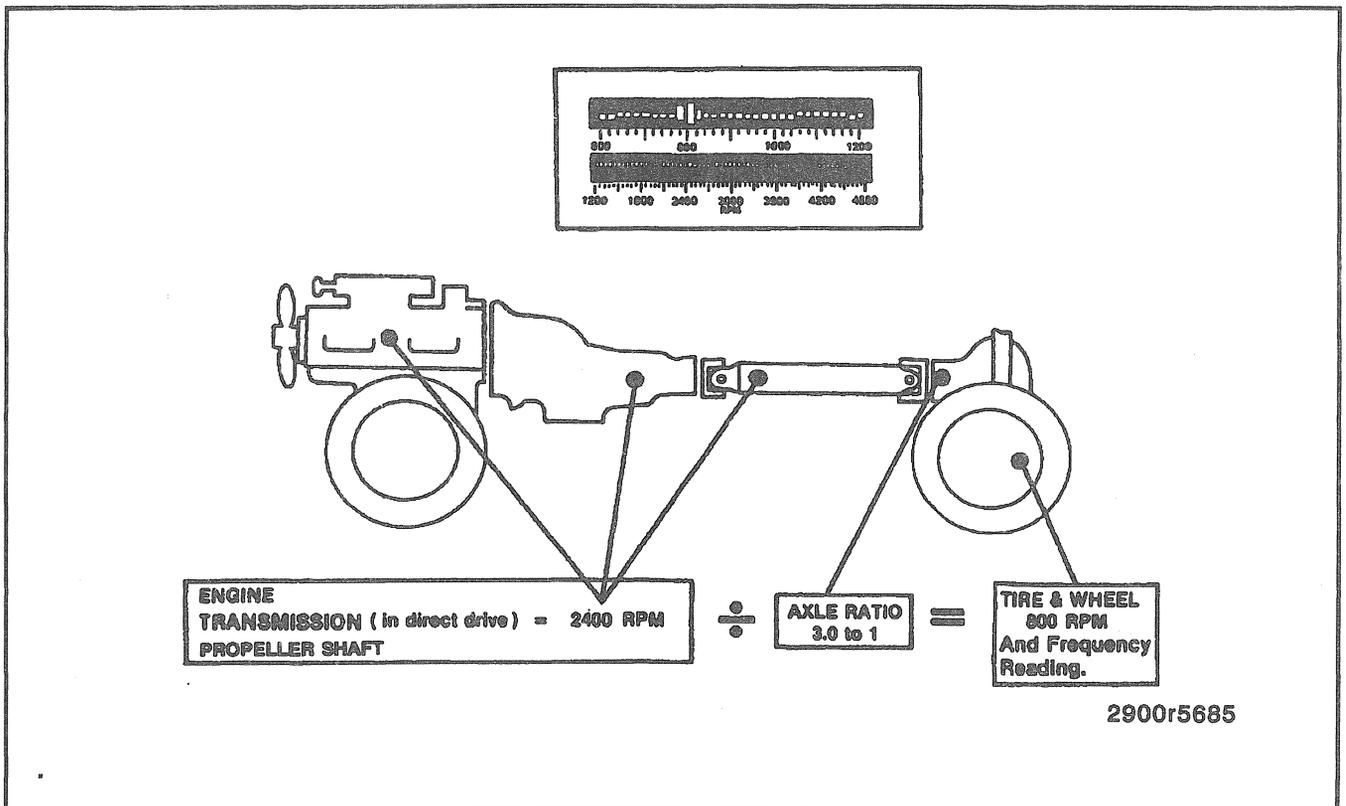

Figure 5—Reed Tachometer 1st Order Vibration
**Known facts** - Reed tachometer frequency reads at 800 cycles per minute (Figure 5).